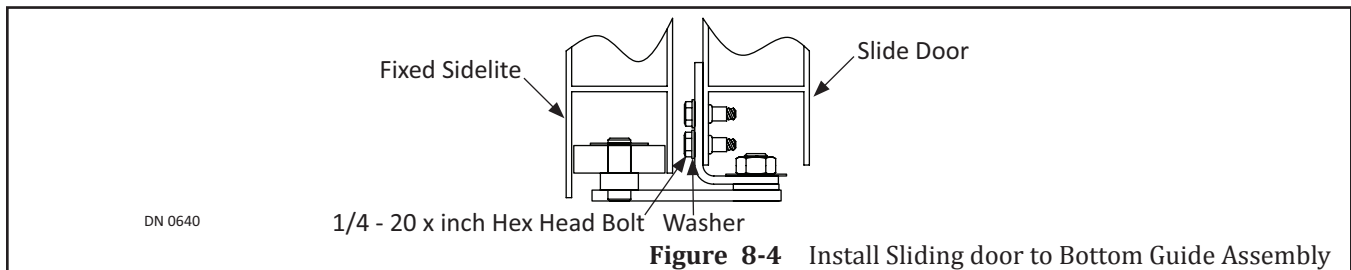

Figure 8-4 Install Sliding door to Bottom Guide Assembly
2. Locate the Roller Assembly. The Bracket will be sticking out from underneath. Please see Figure 8-4.